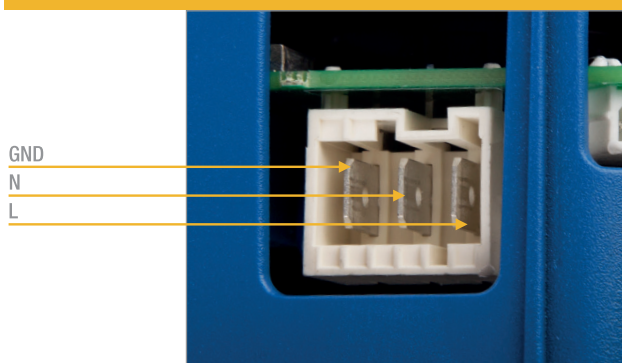

Figure 3 - fan power supply connector
- Fan power supply _____ LUMBERG 3642-03, see Figure 3